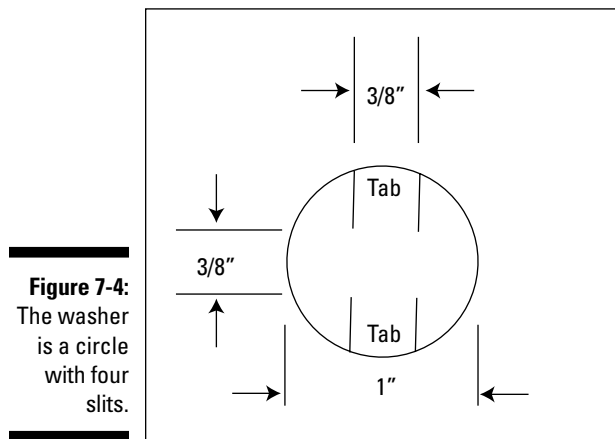

Figure 7-4:
4. Make a washer to fit in the hole (see Figure 7-4).